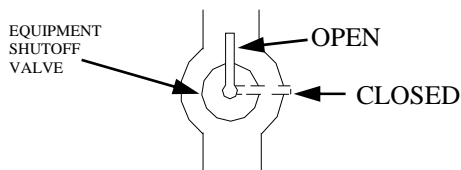

FIGURE 9 - EQUIPMENT SHUTOFF VALVE
1. Close equipment shutoff valve (See Figure 9).
1. Open equipment shutoff valve (See Figure 9).